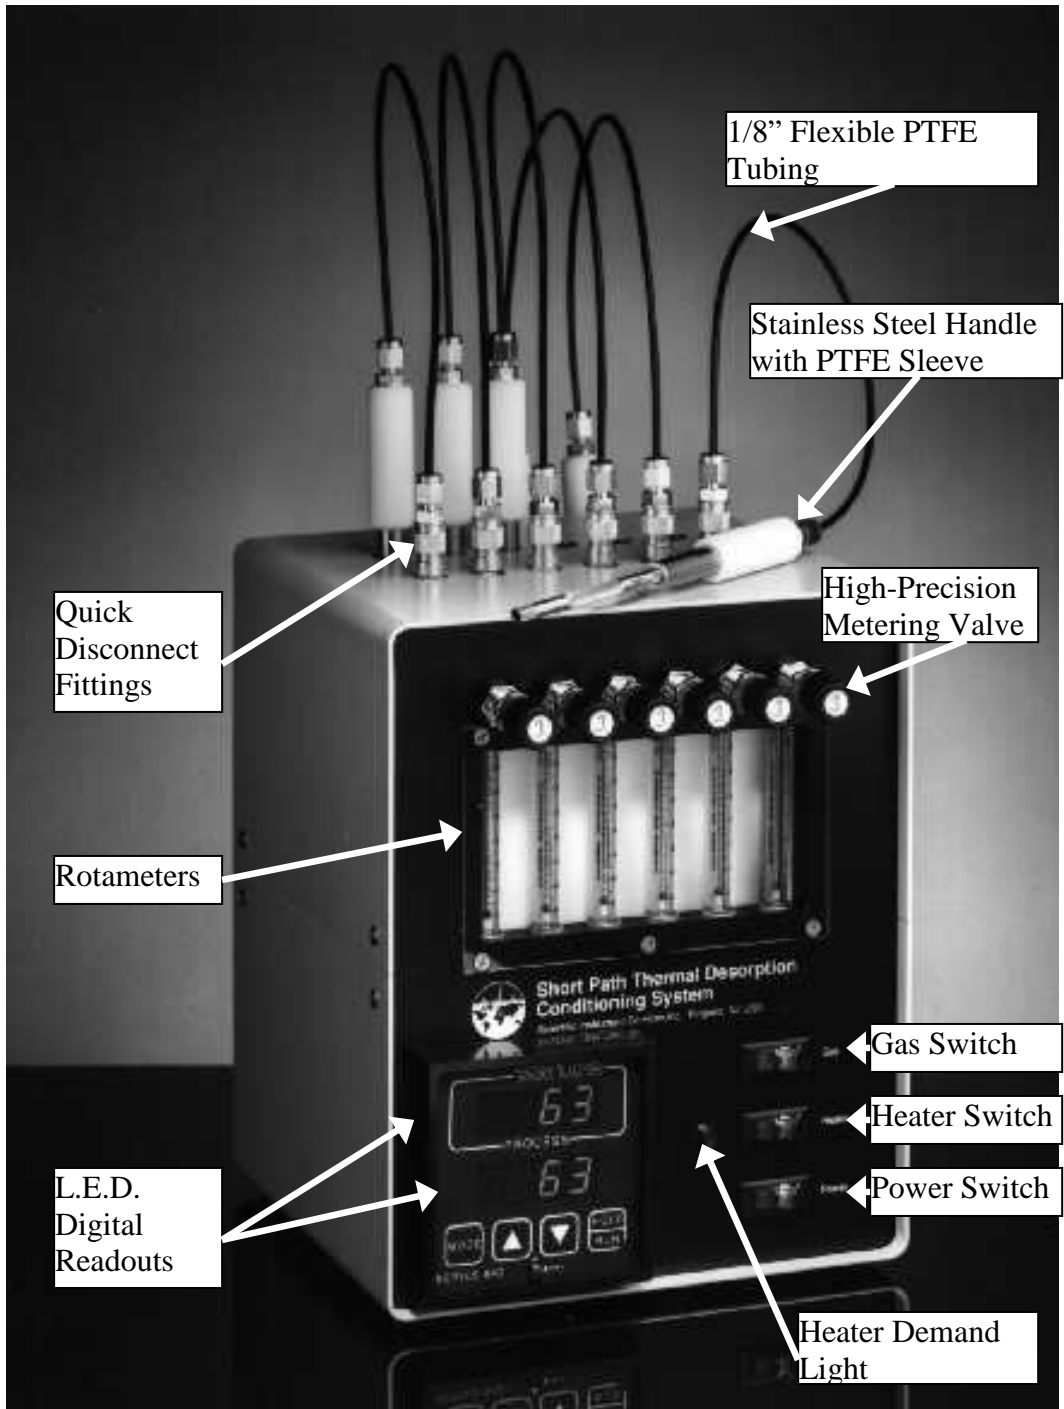

Figure 1-1 – Desorption Tube Conditioning Oven – Front View
A. Front Panel Description (Figure 1-1)